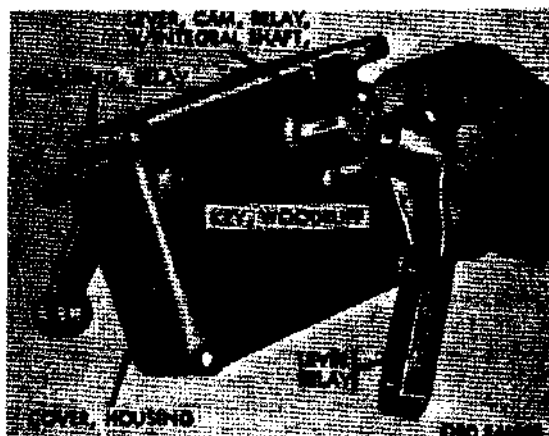

Figure 89. Control relay lever removal
(1) Remove control relay housing cover.
- (a) Position relay housing, with housing cover side up, and loosen hex-nut and cap screw on relay lever (fig. 89).
- (b) Remove relay lever and Woodruff key (fig. 89) from relay cam lever with integral shaft assembly.
cap screw on relay lever, to secure lever to relay cam lever with integral shaft assembly (fig. 89).